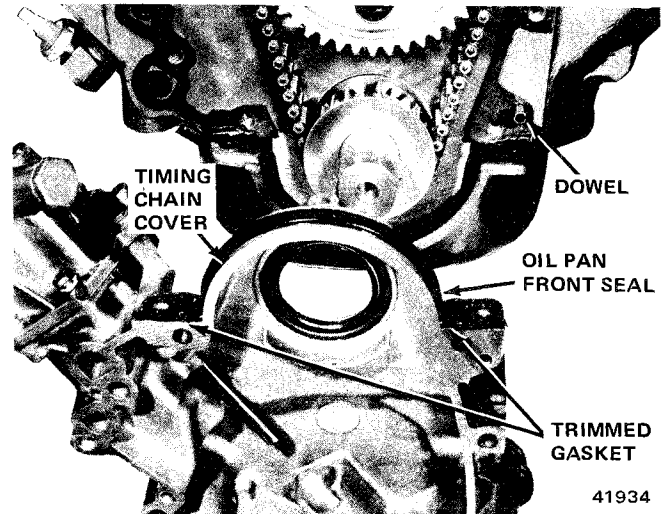

Fig. 1B-77 Oil Pan Front Seal Installation
- (5) If oil pan gaskets are used:
- (a) Using original gasket pieces as guide, trim replacement gaskets to correspond to amount cut off in step (2).
- (b) Align tongues of replacement oil pan gasket pieces with oil pan seal and cement into place on cover (fig. 1B-77).
- (h) Proceed to step (7).
- (6) If RTV is used:
- (a) Apply coating of RTV silicone 1/8-inch thick on timing case cover flanges (fig. 1B-77). Use Jeep Gasket-in-a-Tube, or equivalent. Flanges must be clean and dry.
- (7) Install vibration damper. Tighten retaining screw to 90 foot-pounds torque.
- (8) Install damper pulley and retaining screws.
- (9) Install fuel pump.